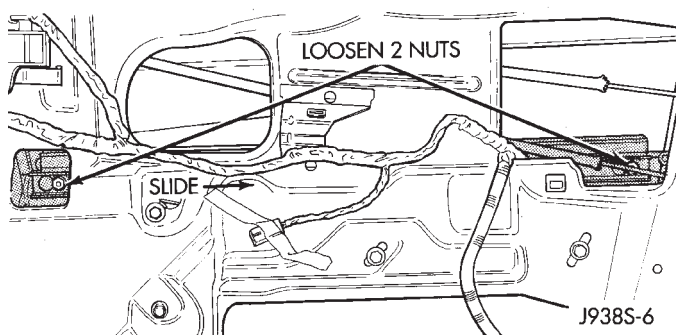
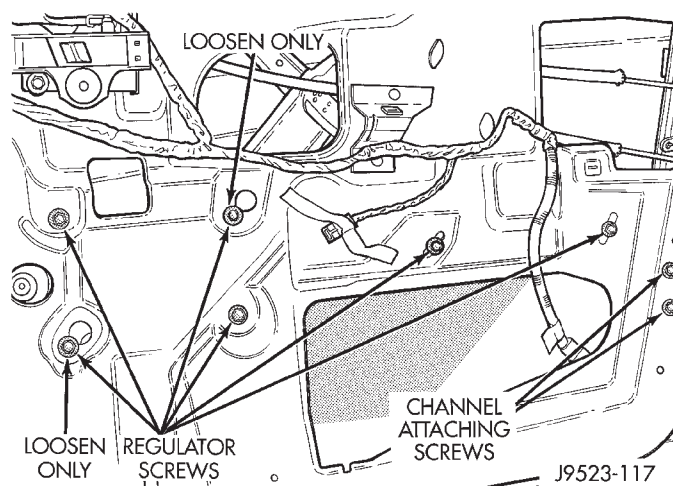

Fig. 26 Front Door Window Track
Fig. 27 Front Door Window Regulator
- (1) Remove door trim panel and waterdam. If necessary, refer to removal procedure.
- (2) Position window glass to access window track nuts (Fig. 26).
- (3) Loosen window track nuts and slide track off of the window.
- (4) Remove window regulator retaining screws (Fig. 27).
- (5) Lift window upward and separate it from regulator. Support window.
- (6) Remove window regulator from door.